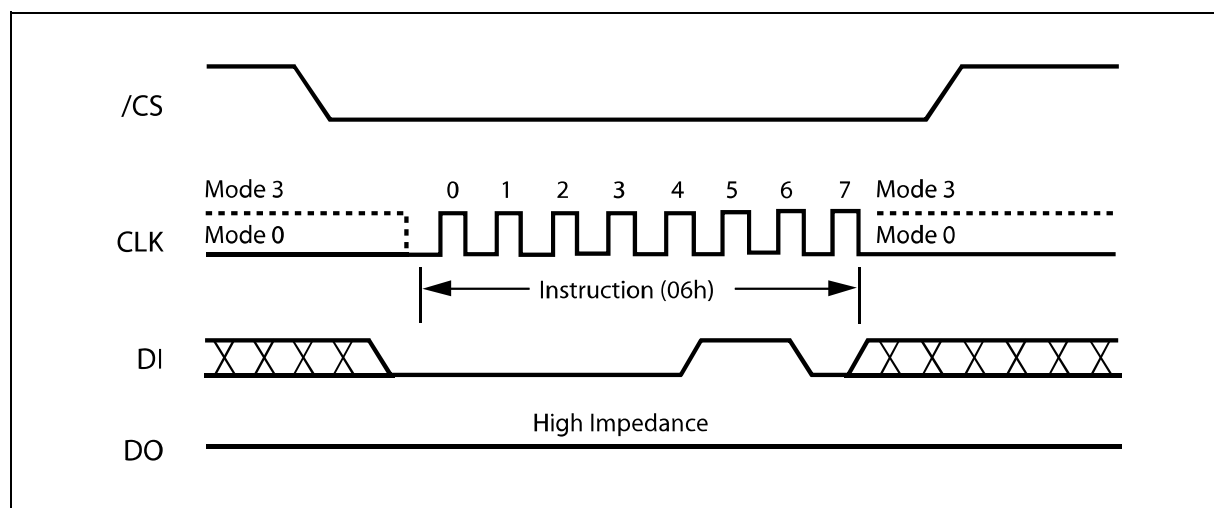

Figure 4. Write Enable Instruction Sequence Diagram
Instructions vary in length from a single byte to several bytes and may be followed by address bytes, data bytes, dummy bytes (don't care), and in some cases, a combination. Instructions are completed with the rising edge of edge /CS. Clock relative timing diagrams for each instruction are included in figures 4 through 32. All read instructions can be completed after any clocked bit. However, all instructions that Write, Program or Erase must complete on a byte boundary (/CS driven high after a full 8-bits have been clocked) otherwise the instruction will be terminated. This feature further protects the device from inadvertent writes. Additionally, while the memory is being programmed or erased, or when the Status Register is being written, all instructions except for Read Status Register will be ignored until the program or erase cycle has completed.
The Write Enable instruction (Figure 4) sets the Write Enable Latch (WEL) bit in the Status Register to a 1. The WEL bit must be set prior to every Page Program, Sector Erase, Block Erase, Chip Erase and Write Status Register instruction. The Write Enable instruction is entered by driving /CS low, shifting the instruction code “06h” into the Data Input (DI) pin on the rising edge of CLK, and then driving /CS high.